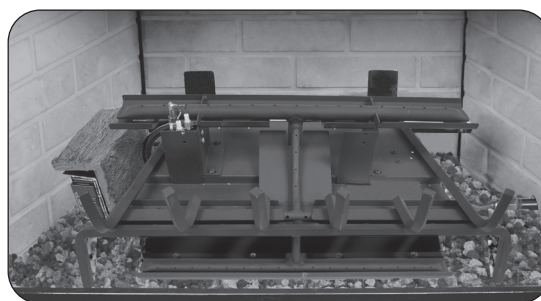

Fig. 16-2 Place lava media
1. Spread the supplied lava granules on the floor of the fireplace, around the front and sides of the burner system (see Fig. 16-2). The lava granules may be placed around the receiver/switch box. Leave the front of the receiver/switch box clear for control access.